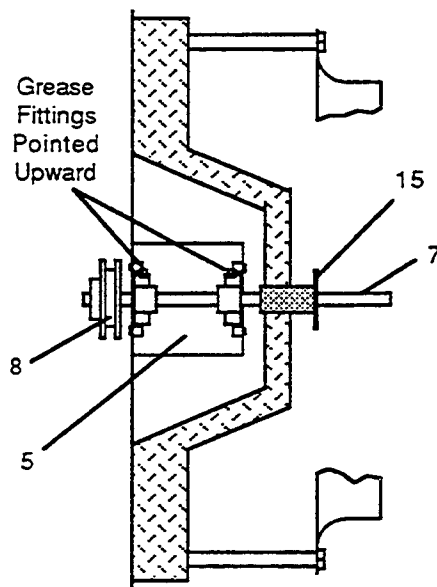

Figure 85
**IMPORTANT:** The bearings (10) must be mounted so the grease fitting faces up when the bracket assembly (Item 5) is mounted on the rear wall. Refer to Figures 85 and 86.
9. Install fan shaft (Item 7) as illustrated in Figure 85. Align bearing set screws with flats on shaft but do not tighten set screws at this time.
10. Insert fan shaft alignment tool (Item 15) as shown in Figures 85 and 87, into back wall.